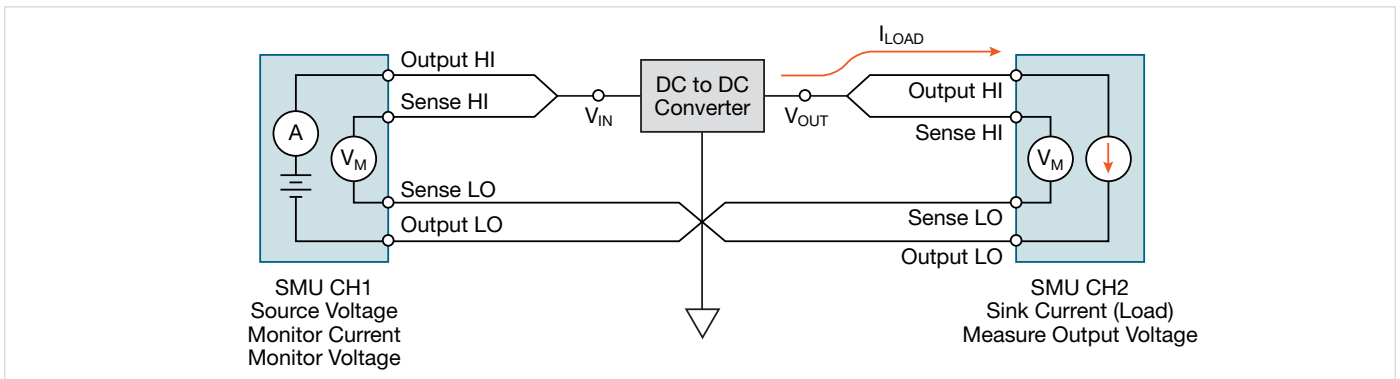

Figure 4. Load regulation test using two Series 2600B System SourceMeter SMU Instruments.
**Figure 4** shows a typical load regulation test using two SMU channels. SMU CH1 supplies the input voltage and monitors the input current. SMU CH2 is configured as an electronic load by setting it to sink current (source a negative current). In this mode, the Series 2600B SMU will operate in the fourth quadrant and sink current.